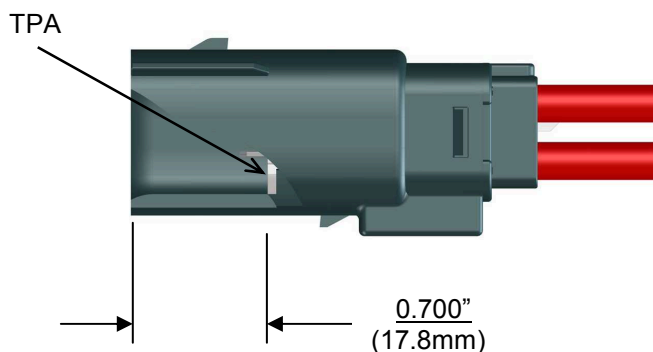

Figure 5: TPA in Locked Position
5. When all terminals and/or circuit plugs are in their proper location, push down on TPA until it clicks into place and is now approximately 0.700" (17.8mm) from mating edge of outer housing (See Figure 5).